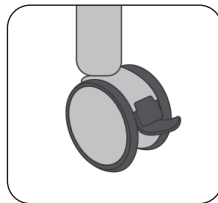

Figure 4.2 Released
- Step on the unlock switch (short handle), the casters will be unlocked.(Figure 4.2)